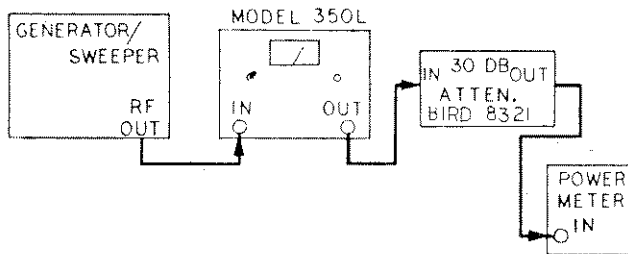

Figure 5-2. RF Output Power Test Set Up
- a. Set-up the test equipment as shown in figure 5-2.